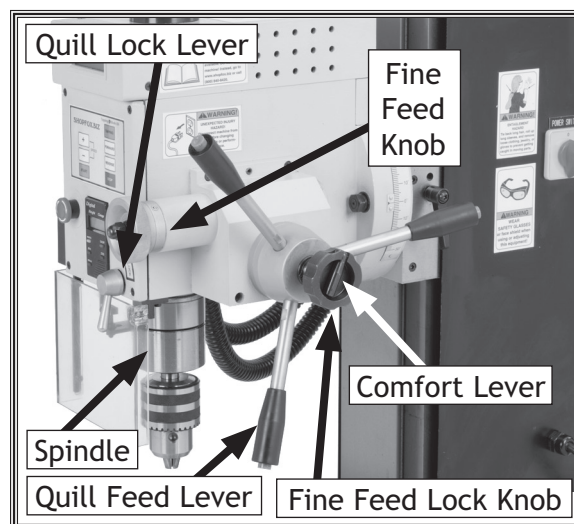

Figure 9. Spindle controls.
Spindle height is changed by unlocking the quill lock and using the down feed handles or the fine feed knob (Figure 9). The digital spindle height readout indicates the spindle height.
**Note:** Use the comfort lever (Figure 9) for additional leverage to unlock the fine feed lock knob if the knob is too tight. Do not use the comfort lever to tighten the knob.